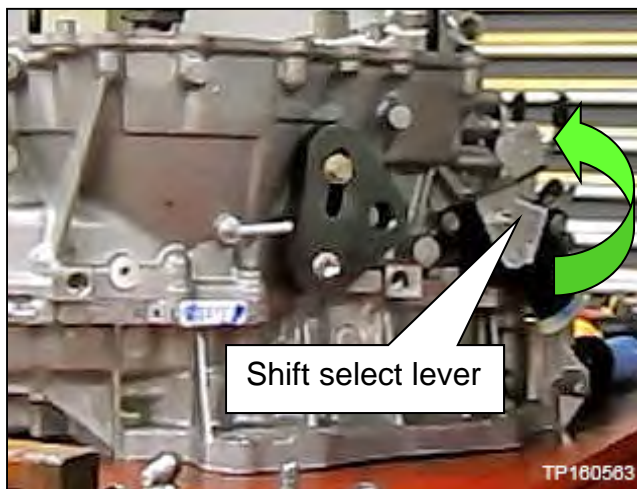
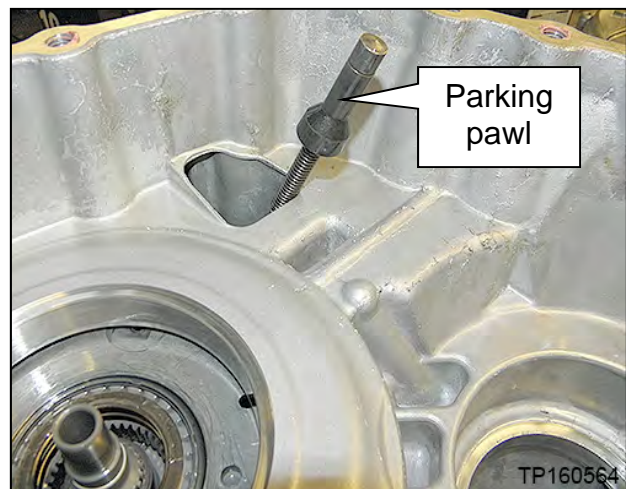

Figure 87
Figure 88
68. Rotate the shift select lever counterclockwise to the “L” range position (Figure 87), so that the parking pawl is at its lowest position (Figure 88).